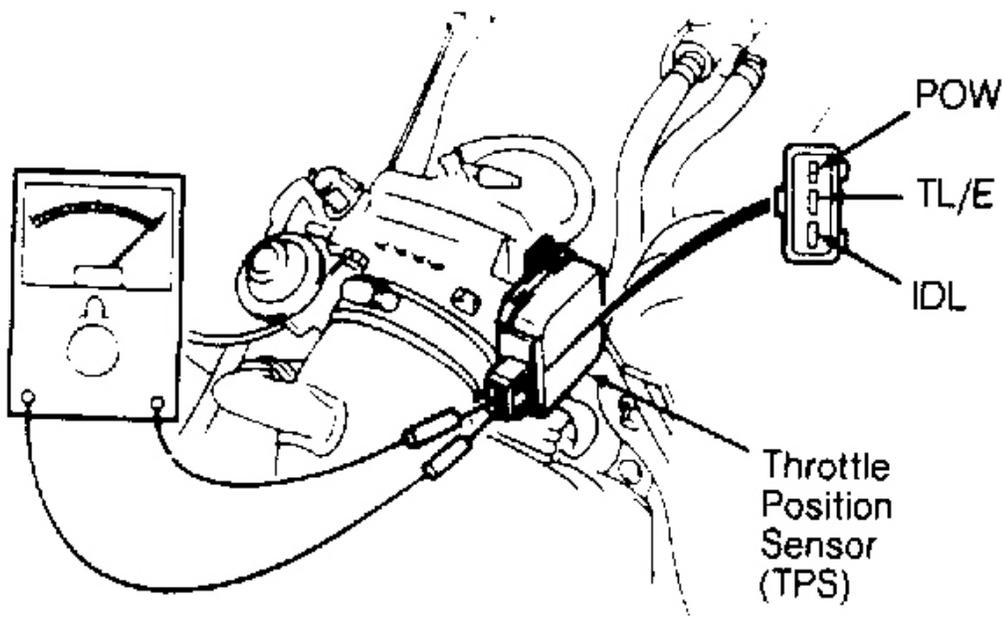

Fig. 4: TP Sensor Connector Terminal ID (M/T)
2. Connect ohmmeter between specified terminals of TP sensor connector. See **Fig. 4** . If continuity is not as specified, adjust TP sensor. See ADJUSTMENT procedure.
- connector. See **Fig. 4** . Insert a .016" (.41 mm) feeler gauge between throttle lever and throttle stop screw.